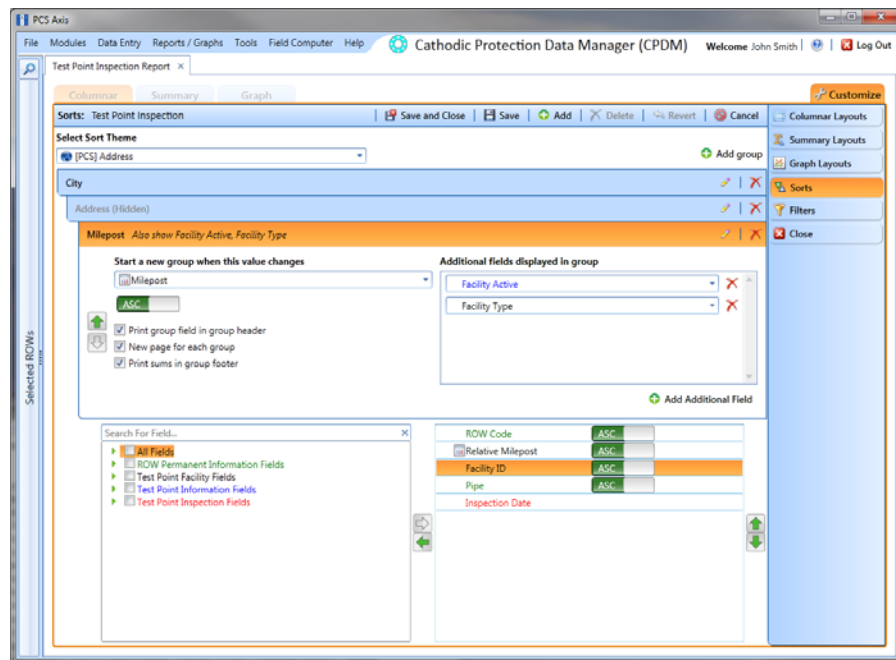

Figure 14-38. Sort Theme Groups
- a** Click  **Add group** to add a new group (Figure 14-38, page 579).
- c** If you want to add another field in the group, click  **Add Additional Field**. Then click the down arrow and select a field in the selection list. The title bar of group includes the name of each field (Figure 14-38, page 579).